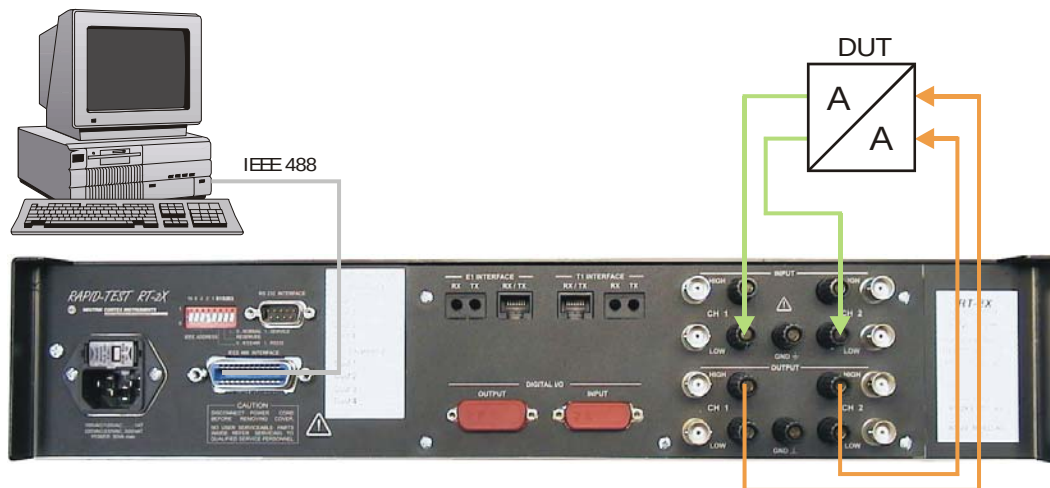

Fig 54 A-A Setup
- Connect the unit to the DUT as shown in **Fig 54**.